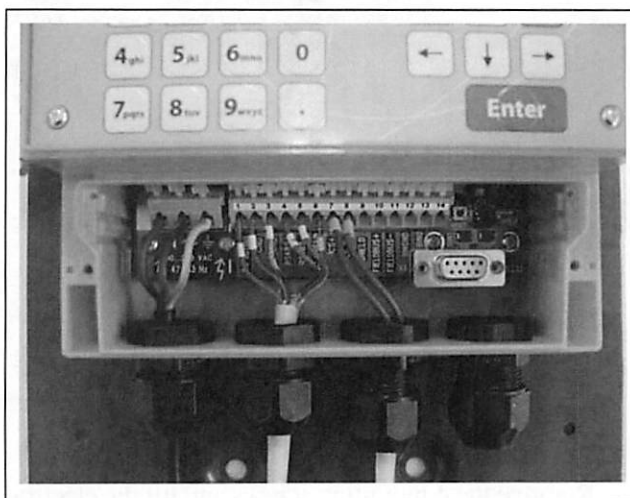

Fig. 12.
- Connect the cables according to the instructions in section 3.5 of this User Guide. Note that you need an external power source to the current output because Metso MCA's current output is passive. MCAi's current output is active (Figure 12).